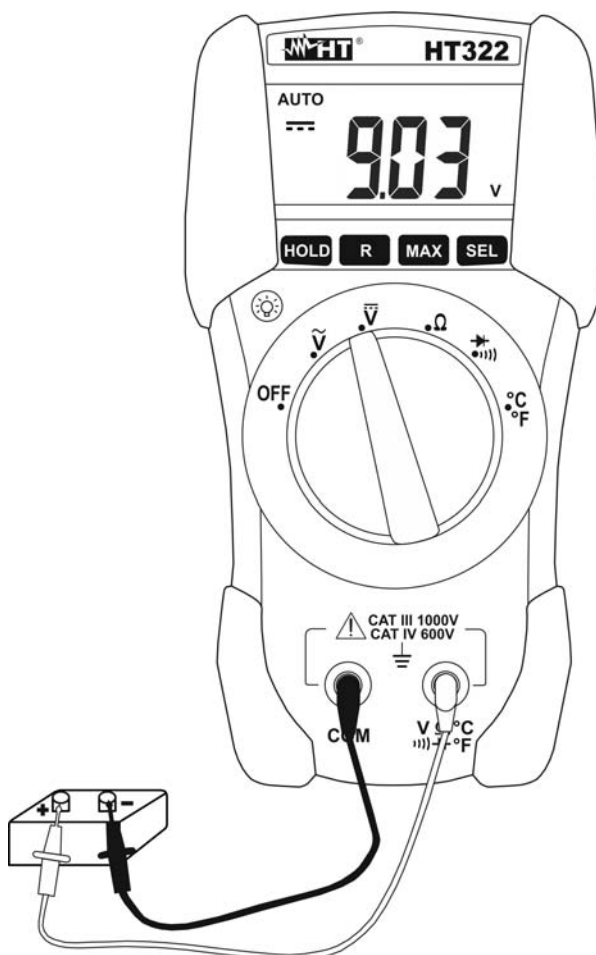

Fig. 2: Using the meter for DC Voltage measurement
4. Connect the red and black test leads to the positive and negative poles of the circuit under test respectively (see Fig. 2). The voltage value is displayed
6. The symbol "-" on the instrument display indicates that voltage has opposite direction with regard to the connection of Fig. 2